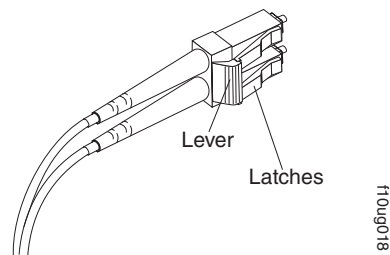

Figure 33. LC-LC fibre-channel cable lever and latches
1. On the end of the cable that connects into the LC connector end of the LC-SC cable adapter, press down and hold the lever to release the latches. Figure 33 shows the location of the lever and latches.